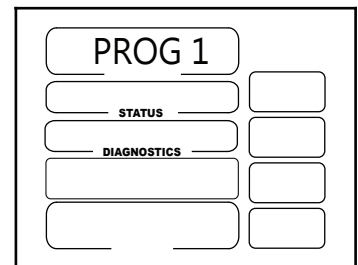

Figure 17-3
4. If no program exists, the depth and multiple information screens will be blank. See figure 17-3.